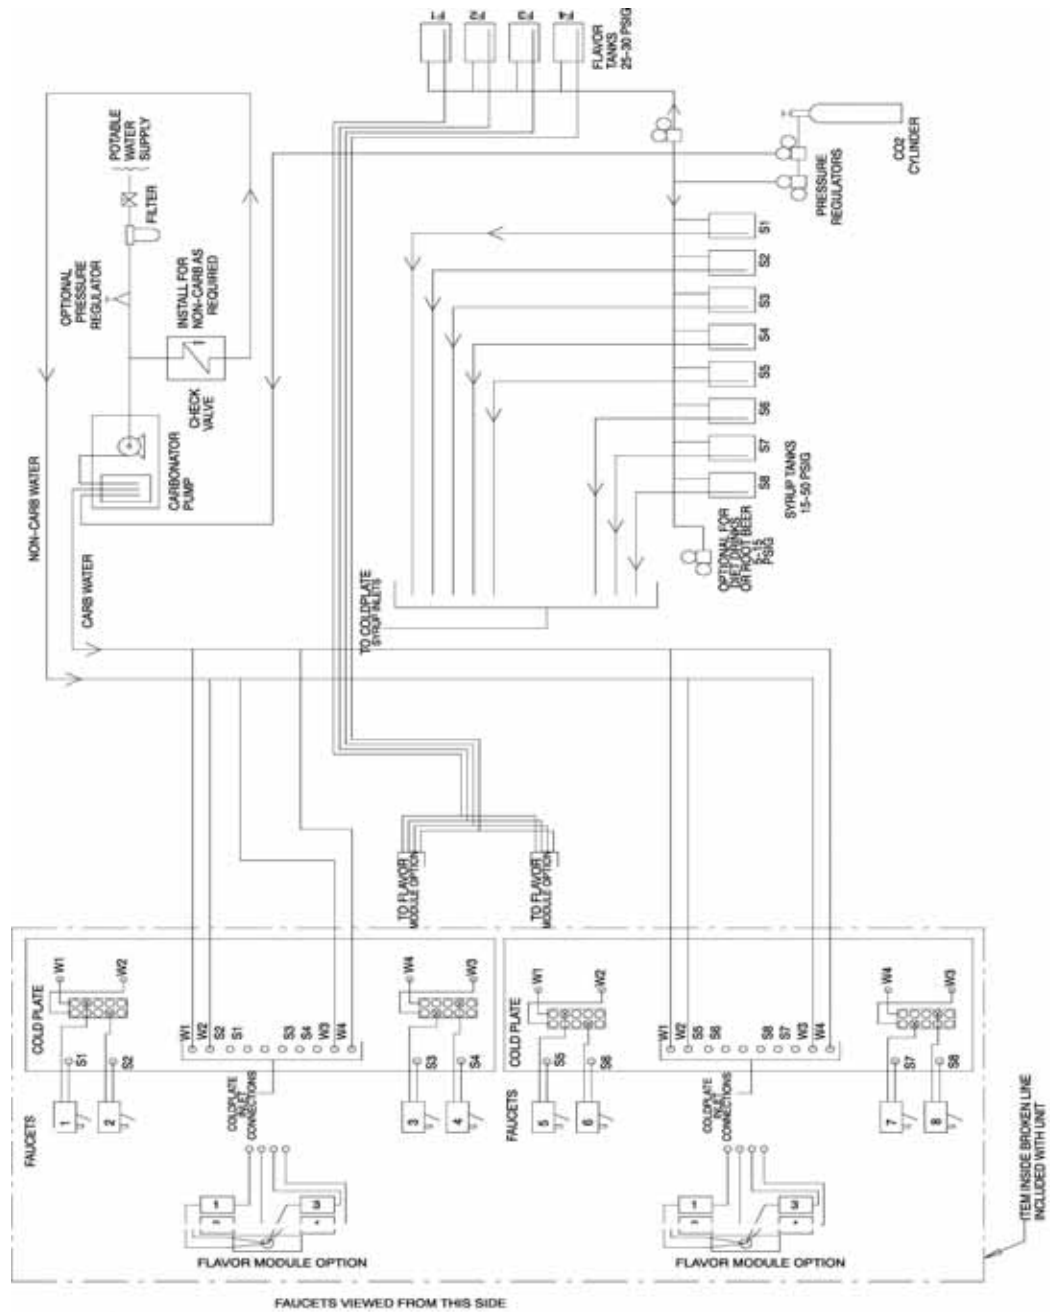

Figure 5. Drip Tray Drain Assembly
3. DRIP TRAY DRAIN ASSEMBLY (see Figure 5): Route the drain tube to an open drain with the end of the tube above the "flood" level of the drain. Use the tubing, fittings, clamps, and insulation provided with the Dispenser to assemble the drain. The completed drain line *must* pitch continuously downward and contain no "traps" or improper drainage will result.